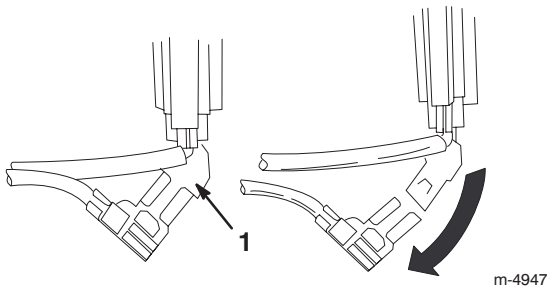

Figure 16
6. Disconnect the green ground wire clip under the throttle (Fig. 16).